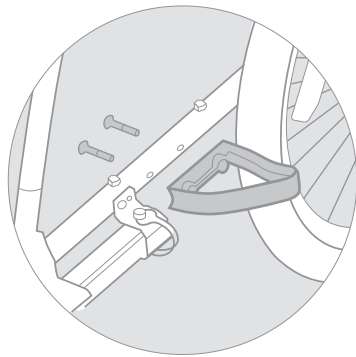

Figure 4
1. Insert wheel guard bolts through frame tube. Match holes in wheel guards to bolts. Tighten securely with hex key (Figure 4).